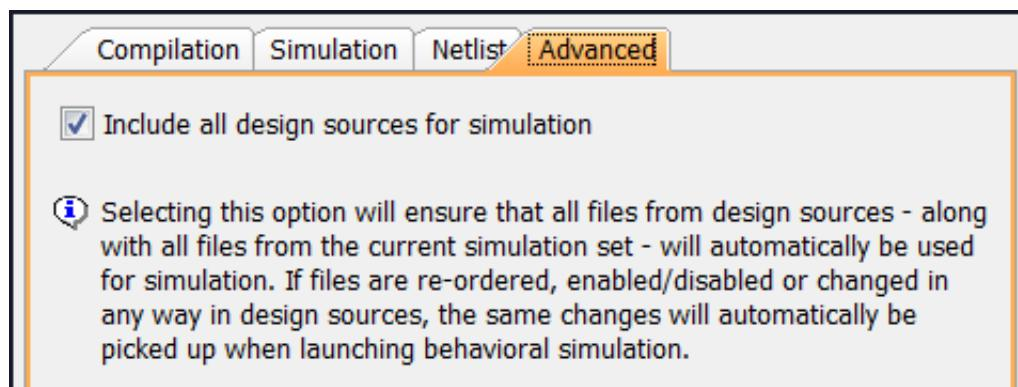

Figure 3-7: Advanced Simulation Settings View
- **Advanced View:** Shown in Figure 3-7, provides an option to include all design sources for simulation. Unchecking the box gives you the flexibility to include only the files you want to simulate.